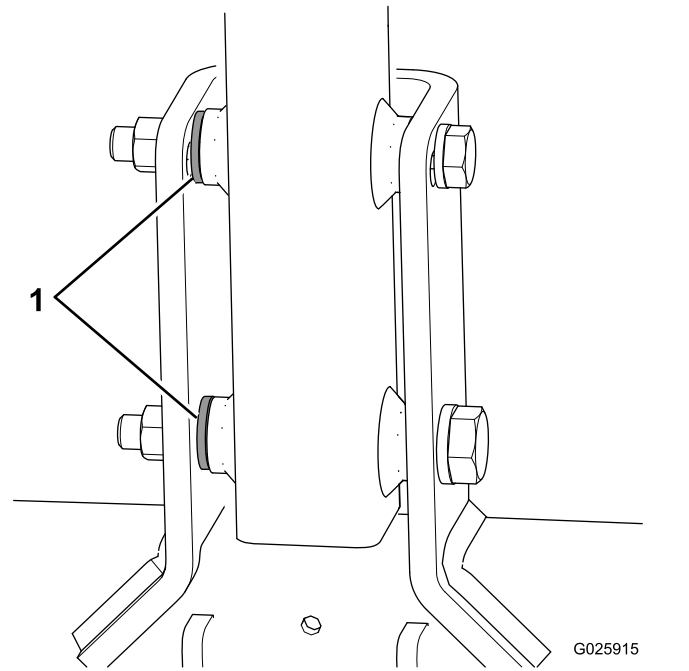

Figure 6
- If your machine has a third washer included with each bolt, use those washers as spacers between the hitch and the inside of the hitch pivot bracket (**Figure 6**).